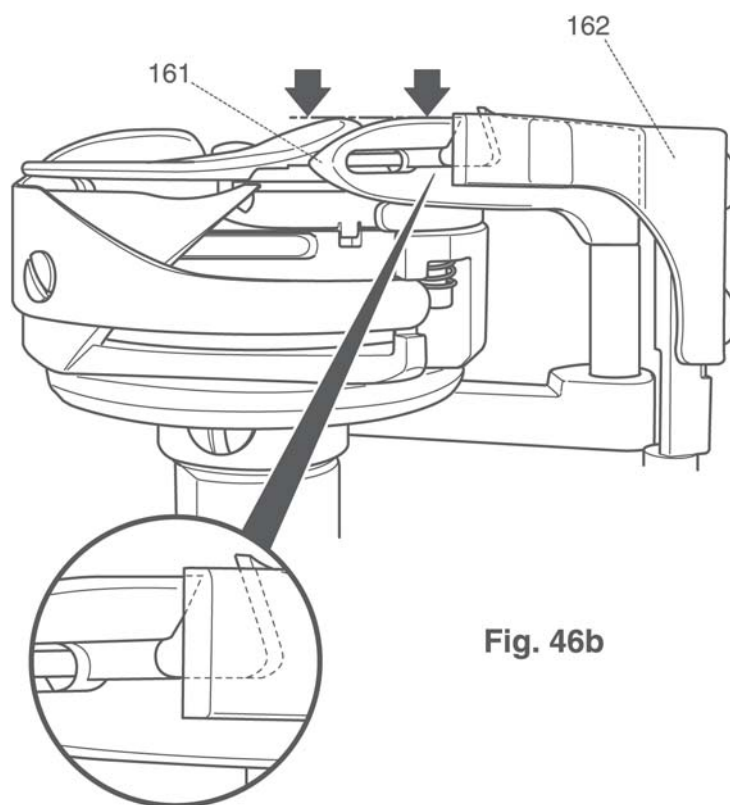

Fig. 46b
- Now move thread puller 161 axially until it is adjusted as shown in Fig. 46b.
- Activate the thread puller 161 manually and check if there is no play between knife 162 and thread puller 161 in the position shown in Fig. 46b.